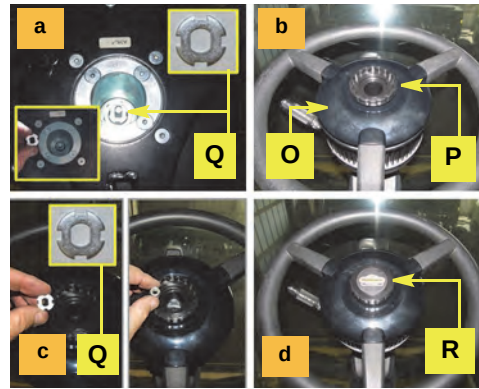

Figure 6 (a-d): Column telescoping actuator installation
- One of the actuator plates **Q** on the actuator extension of the steering shaft (Figure 6-a).